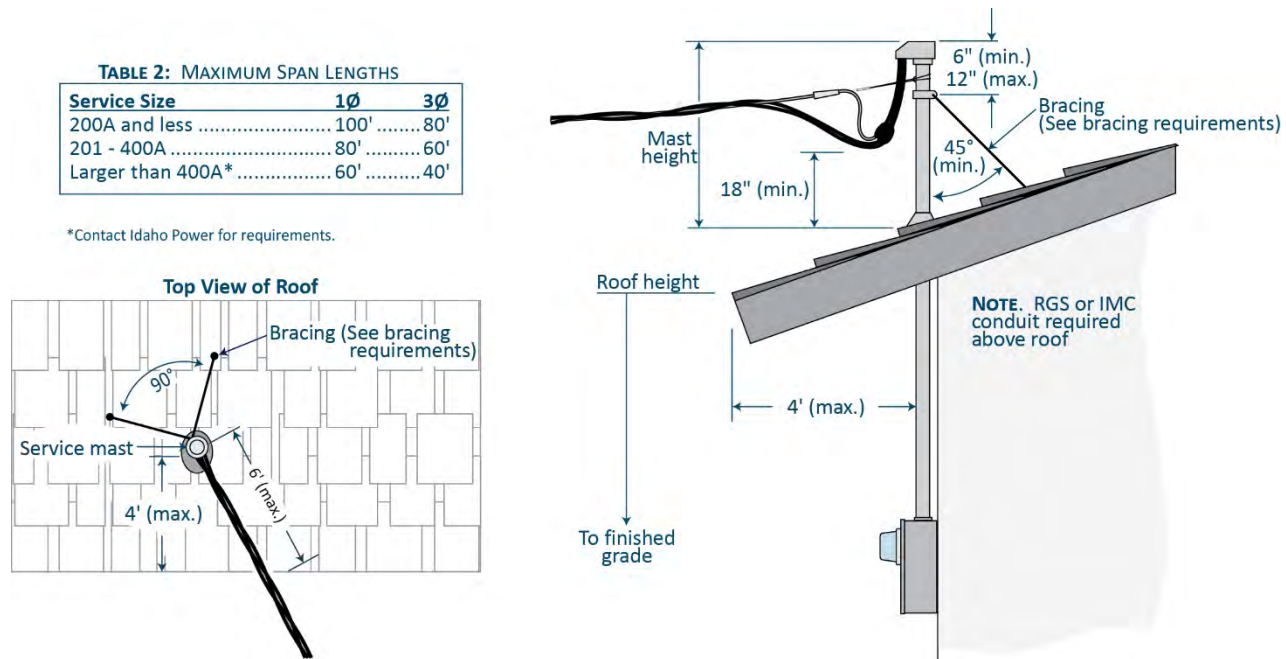

Figure 37 Exception 3 for Services Over Building Roofs
3. A service conductor, or its drip loop, up to 300-volts line-to-line that crosses only the eave portion of the roof where it reaches the service mast must have an 18 inch clearance over the roof. The service mast must not be more than 4 feet from the edge of the roof. Only 6 feet of the service conductor may be above the roof as shown in Figure 37: